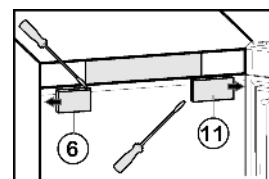

Fig. 5
- ▶ To remove the cover on the handle side Fig. 5 (6): disengage using a screwdriver on the right and slide outwards.
- ▶ To remove the cover on the hinge side Fig. 5 (11): disengage using a screwdriver on the left and slide outwards.
- ▶ Turn the cover *Fig. 5 (6)* through 180°, attach it from the outside to the handle side and snap it into place.